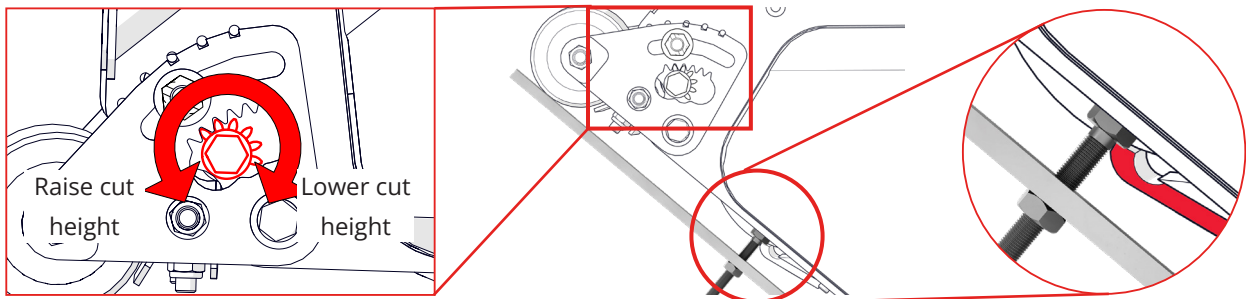

Fig.12F - Rotate the toothed gear while offering up the setting bar. Stop when the head rests level/within the shear blade
7. Rotate the toothed gear to raise or lower the front roller. While doing this, position up the setting bar again between the front and rear roller. Stop adjusting when the head rests within the lip of the shear blade (Fig.12F). Tighten lightly the top clamp nut.